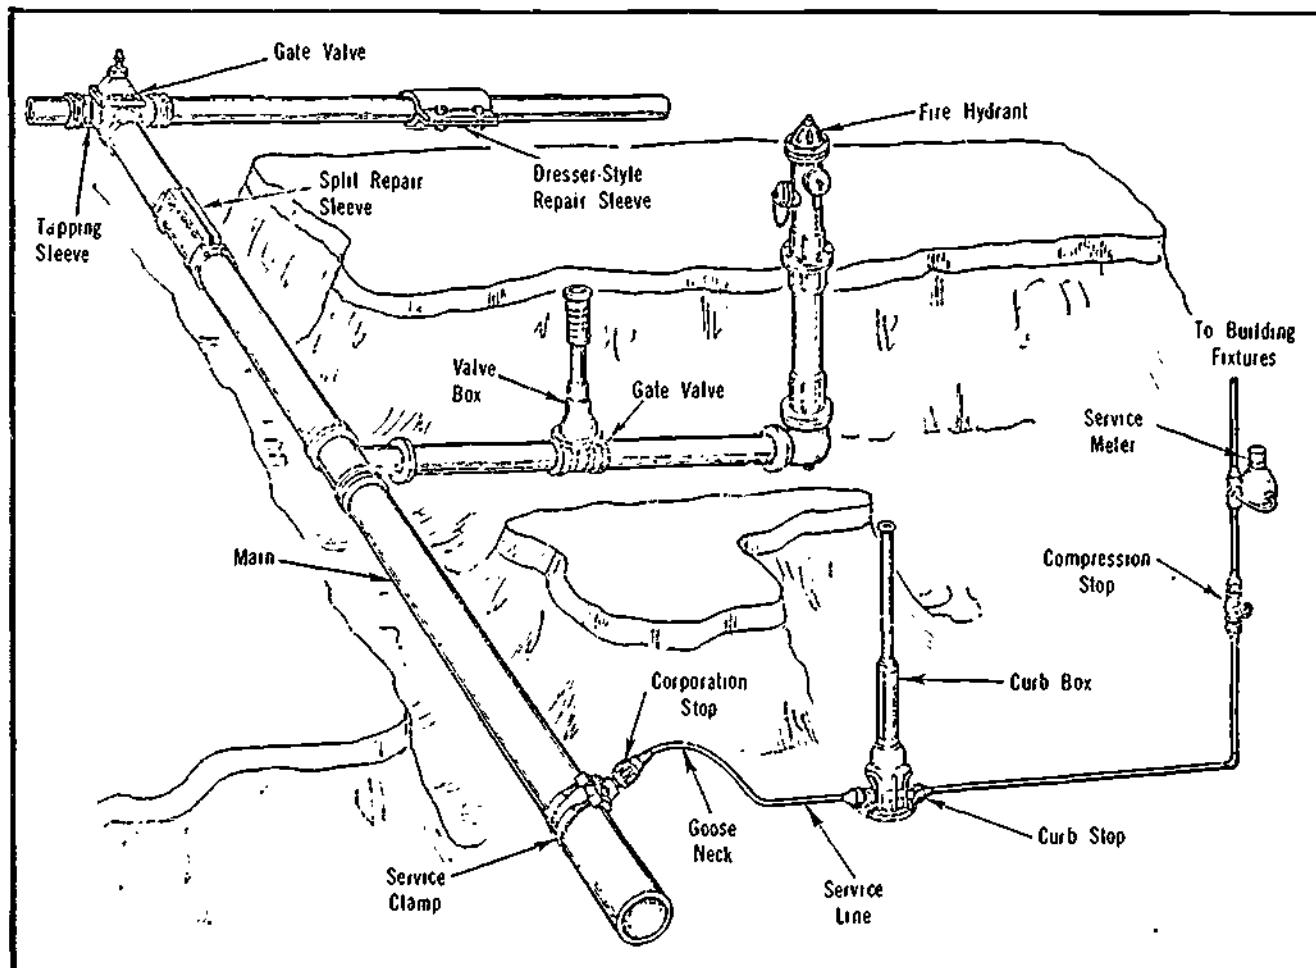

Figure 25-2. Some Components of a Water-Distribution System
19. The portion of the water supply lying between the main and a building is known as the service line, or water service pipe. (See Figure 25-2.)
22. The curb stop is generally installed close to the property line, and a cast iron curb box is generally installed as shown in Figure 25-2.